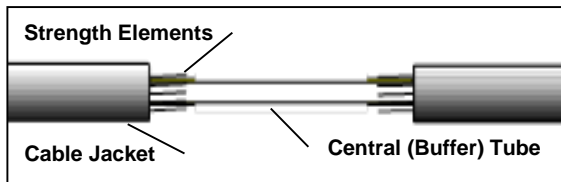

Figure 3
7.5.4 Midway along this exposed window, cut the strength elements with electrician scissors to expose the central (buffer) tube underneath (Figure 3).